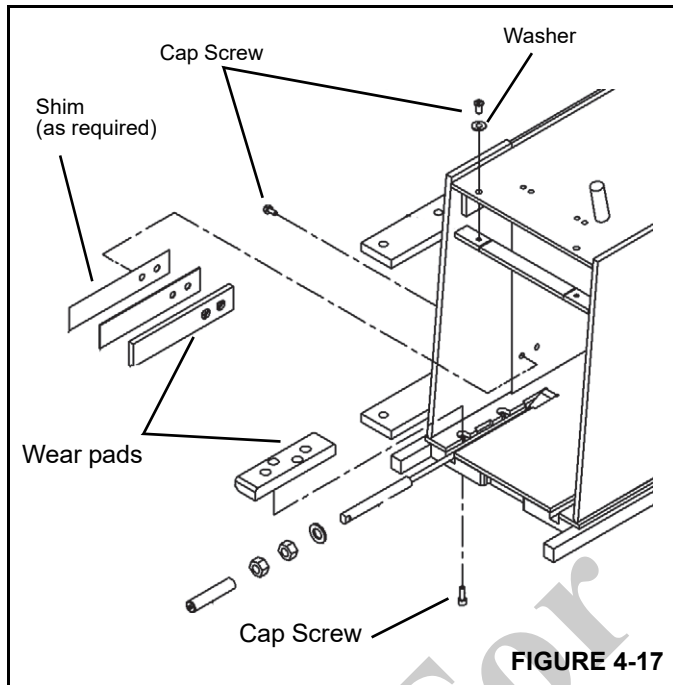

FIGURE 4-17
2. Install the lower wear pads at the front end of the 1st section and secure with cap screws (Figure 4-17).